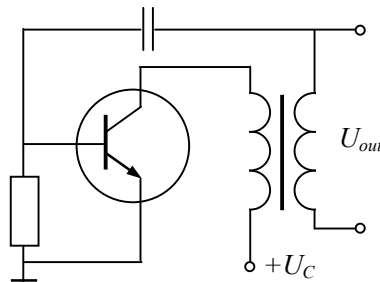

Fig. 2.58
**Blocking oscillator.** A *blocking oscillator* shown in Fig 2.58 represents the group of so called *relaxation oscillators* that generate non-sinusoidal oscillations. Unlike a multivibrator, the sharp pulses with broad pauses between them are produced on the output of this circuit. The transformer with hysteresis is an essential component of the blocking oscillator. Originally, the forward biased transistor emits the current to the primary winding of the transformer. The signal passes through the capacitor to the base of the transistor. The capacitor charges and sends the pulse to the transformer. After the transistor saturation, the feedback signal falls, the capacitor discharges, and the oscillation starts again. The oscillation frequency depends on the resistance and capacity.